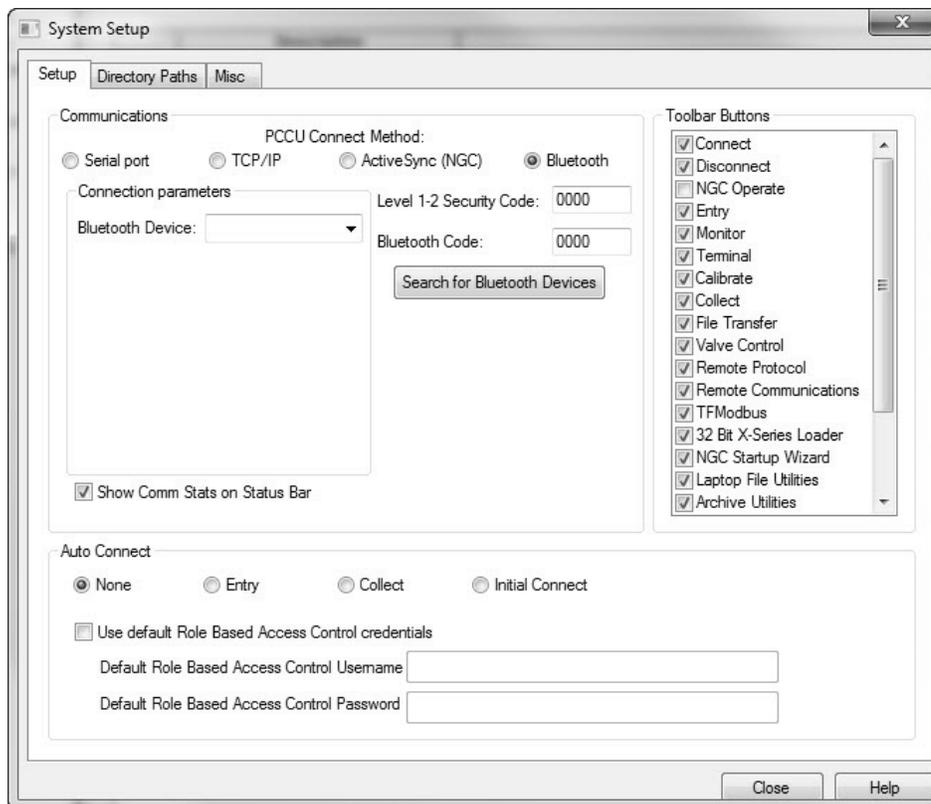

Figure 43: System Setup dialog box - Bluetooth®
11. On the System Setup dialog box, select **Bluetooth®** in PCCU Connect Method (Figure 43).